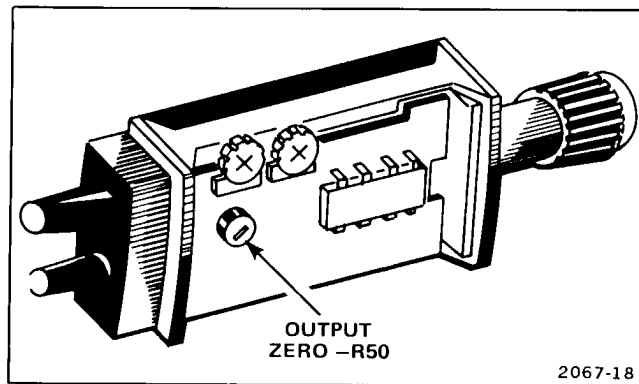

Figure 4-6. Output zero adjustment location.
h. ADJUST—R50 (see Figure 4-6) to move the trace back to the center horizontal graticule line.